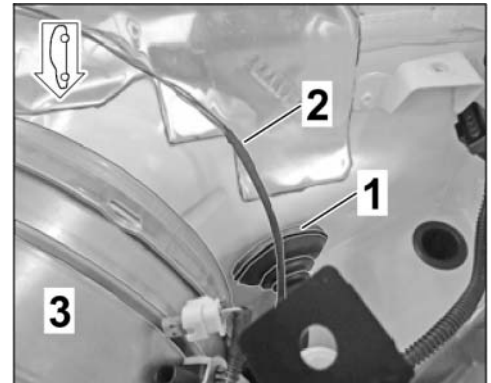

Figure 12
2.3.3 Remove grommet on bulkhead (LHD vehicle: left side ⇒ *Figure 12*)